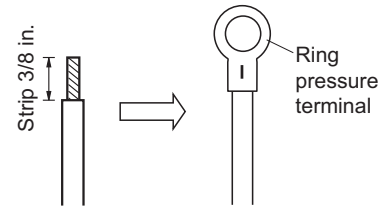

Fig. 1-1
- (1) Cut the wire end with a wire cutter or wire-cutting pliers, then strip the insulation to expose the stranded wiring about 3/8 in. (Fig. 1-1)
- (2) Using a Phillips head screwdriver, remove the terminal screw(s) on the terminal plate.
- (3) Using a ring connector fastener or pliers, securely clamp each stripped wire end with a ring pressure terminal. (Fig. 1-1)